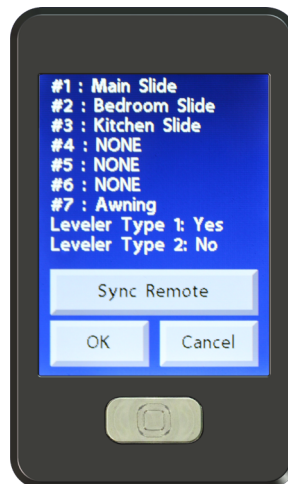

Fig.41
8. A confirmation screen will appear showing all of the configured functions (Fig. 41). If the trailer does not have an LCI Multifunction Wireless system installed, the screen will show "NONE" for functions (Steps 1-7) and then "Leveler: Yes." Press "OK" to save the configuration or "Cancel" to restart the process.